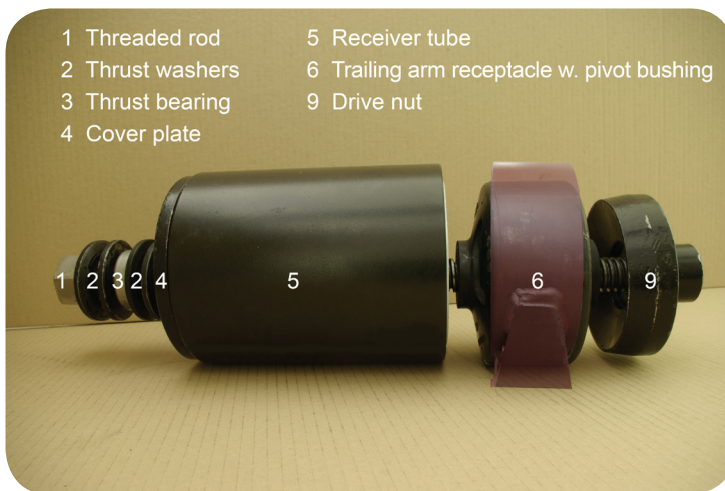

Fig. 1 · Identification of removal tool components
The pivot bushing removal tool (hereafter abbreviated to removal tool) consists of a hex-head threaded rod (1), two thrust washers (2), a thrust bearing (3), two more thrust washers (2), a cover plate (4), a receiver tube (5), and a drive nut (9), as illustrated in Figure 1.